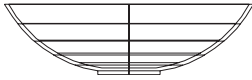

Fig. 14.18 Second example – **3D Mirror** – the 3D model
First example – **3D Mirror** (Fig. 14.18)
1. Construct a solid of revolution in the shape of a bowl in the **ViewCube/ Front** view working on a layer of colour yellow (Fig. 14.18).